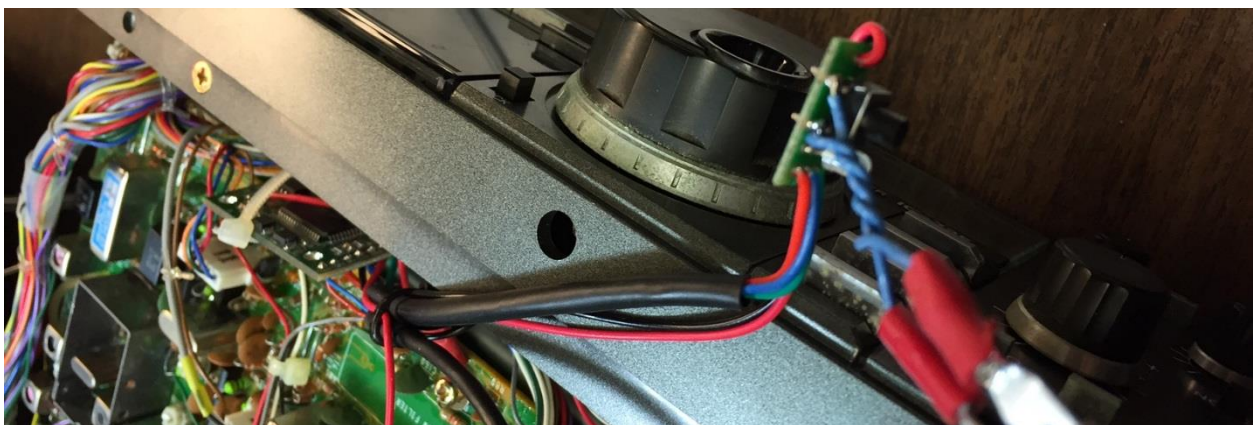

Figure 9. Push-button switch connections to the DSP keyboard
6. Then, an external push button is wired in parallel with the keyboard push button (Figure 9). This switch will be used to enable noise cancellation and select the level.